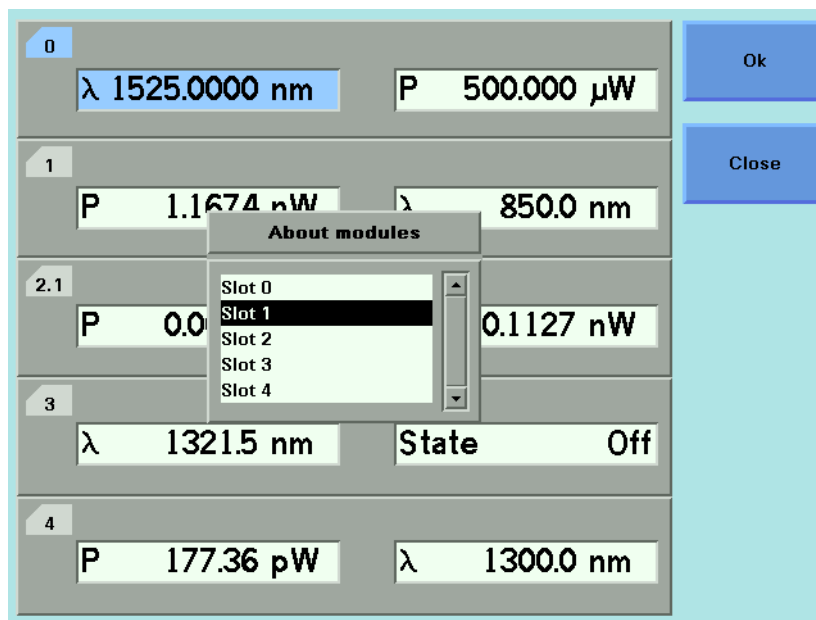

Figure 37 Slots with Installed Modules
- 2 Move to the *<About Modules>* menu option and press *Enter*. You see a box displaying the slots which have installed modules, see Figure 37.
- 5 Press [Close] to return to the menu in Figure 37.